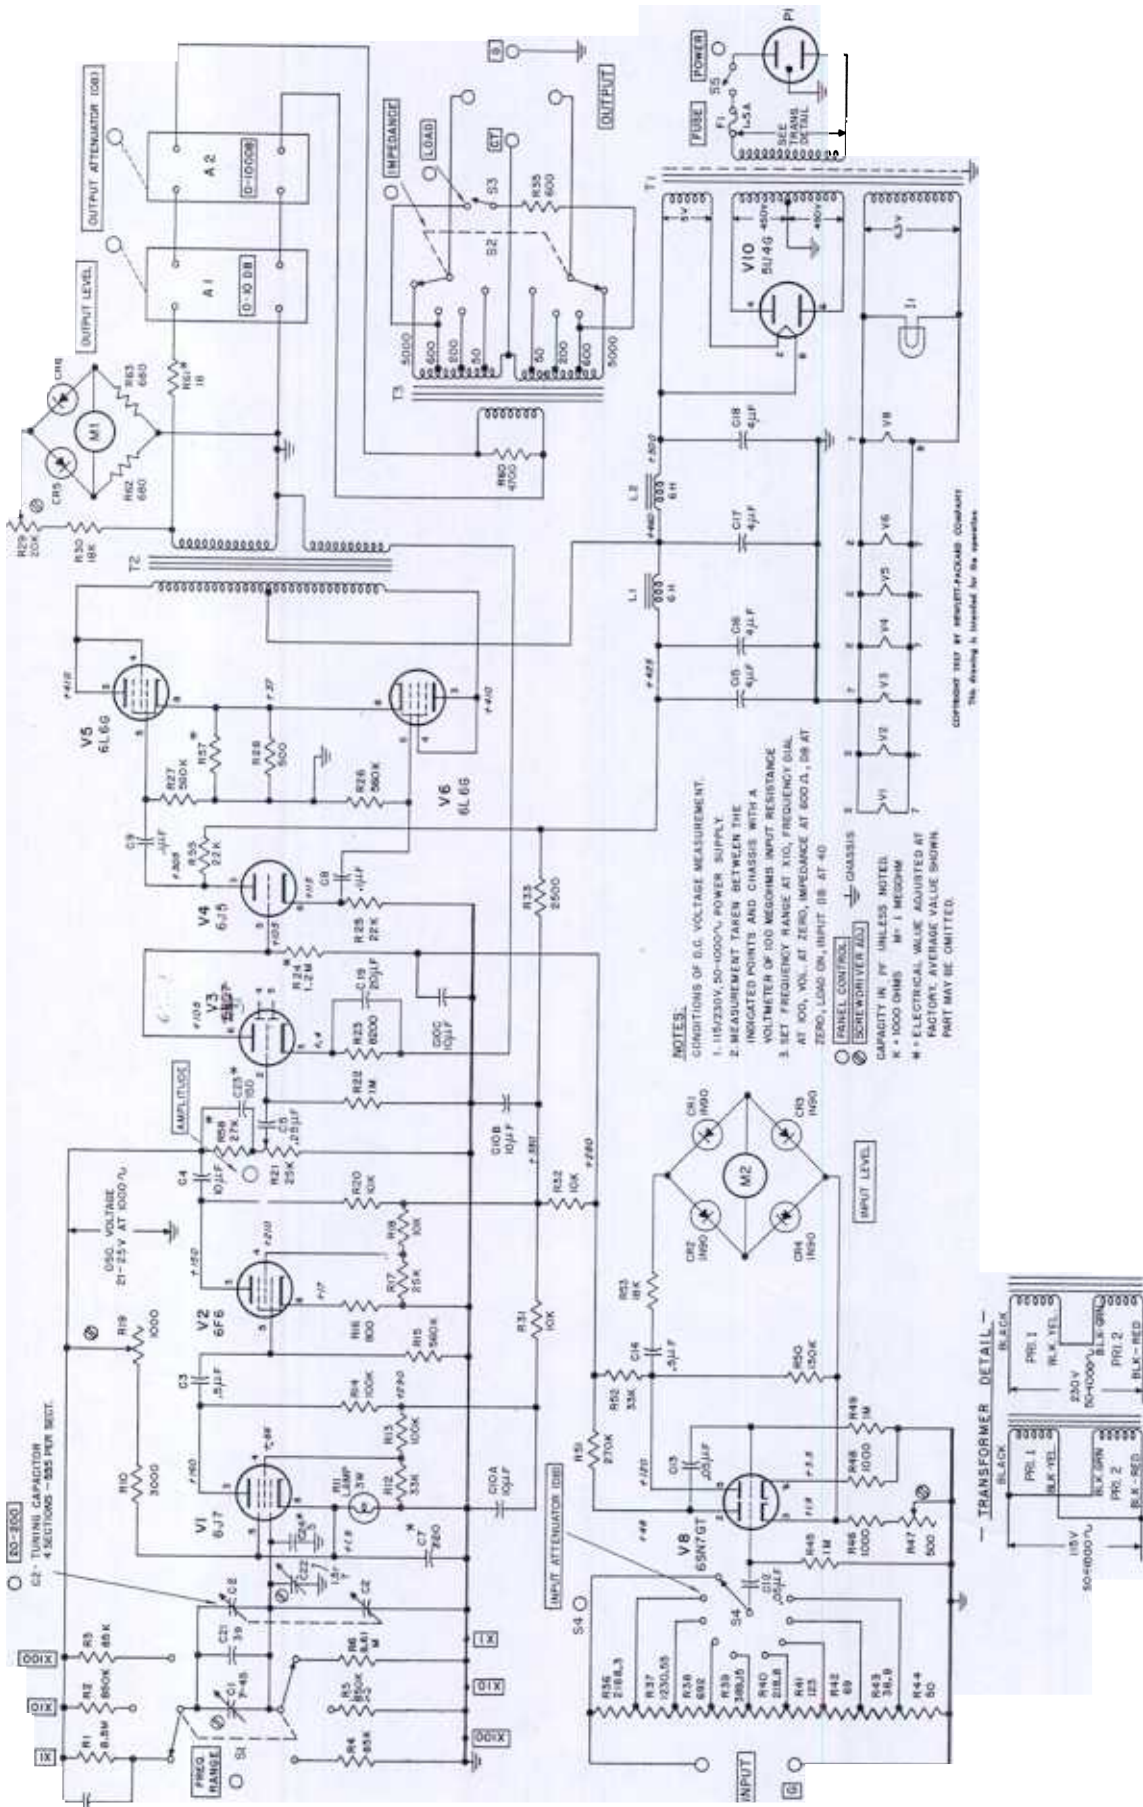

Figure 4-3. Model 205AG Audio Signal Generator
- CHANGE #3**     √ Figure 4-3,